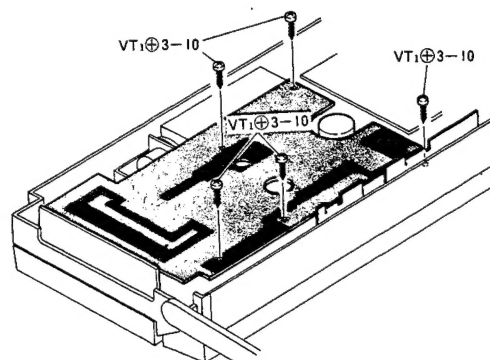

Fig. 4
- 1) Remove the 5 screws. (See figure 4)